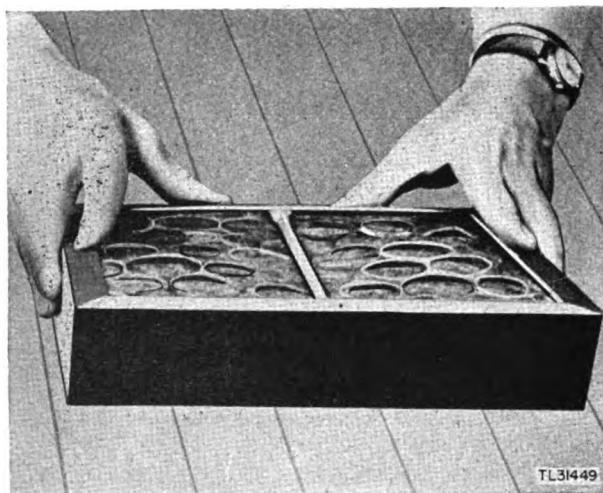

Figure 10. Cleaning air-filter pad.
(2) Hold the filter element in both hands with the dirty side facing down (fig. 10).
(3) Tap and shake the filter element.
(4) Hold up to the light and look through. If light can be seen, the element can still be used. If no light is seen, replace with a new filter element.
(5) Always replace the filter element with the arrow pointing towards the interior of the set.